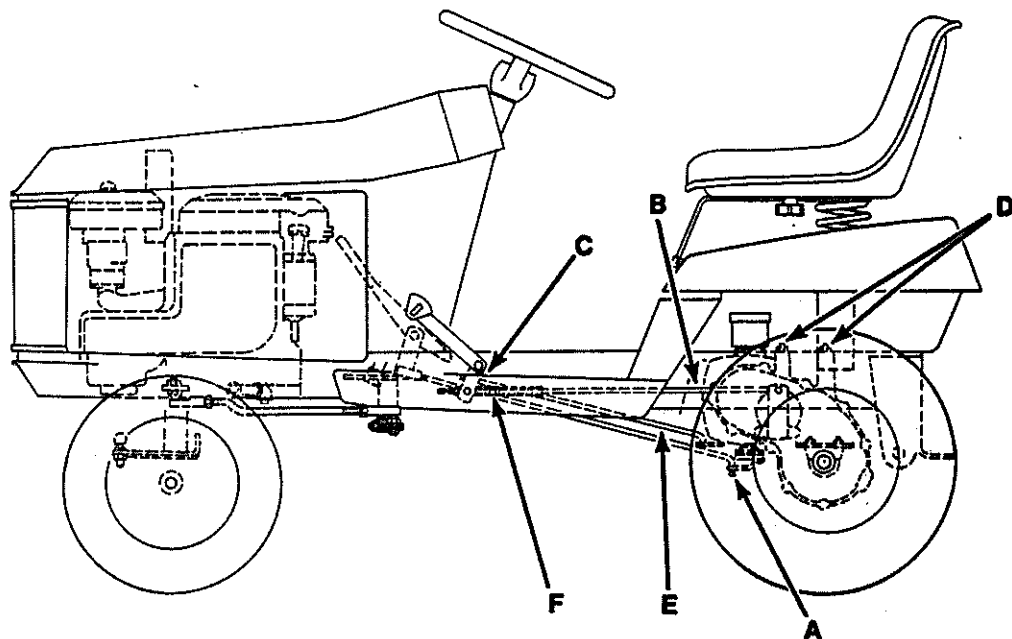

Figure 5-9
2. Disconnect hydrostatic shift rod (A) at hydro arm. Figure 5-9.
3. Disconnect brake rod (B) at pedal (C).
4. Remove three screws (D) securing transaxle to tractor frame. Figure 5-9.
5. Remove cam plate rod (E) at hydro.